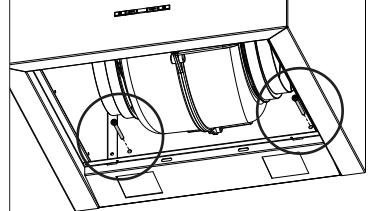

Fig. 7
- Affix the support clamp **Z** (Fig.7) to the wall via the drill holes **C**.